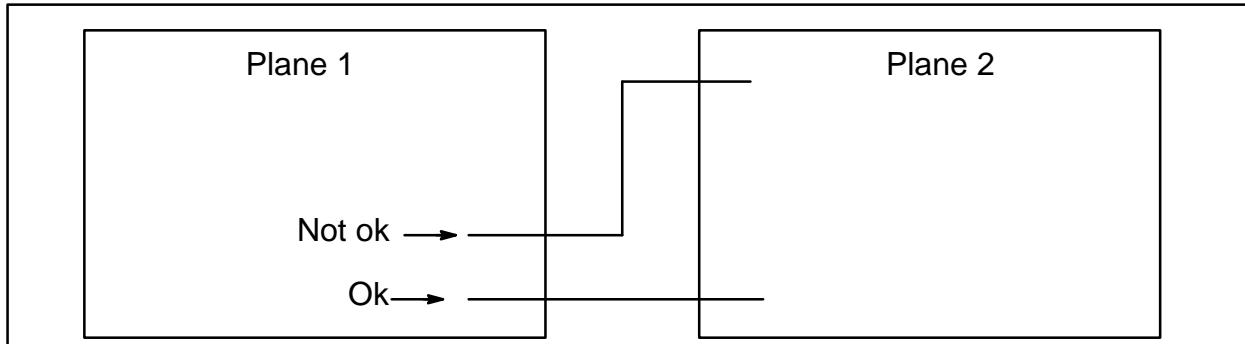

Figure D-4. Power Plane Split
- 1 A power (ground or voltage) plane split occurs where there is a discontinuity in the plane. As shown in Figure D-4, route wires across splits in a power plane in the most perpendicular manner possible. Do not run wires parallel to the split in close proximity to the split.